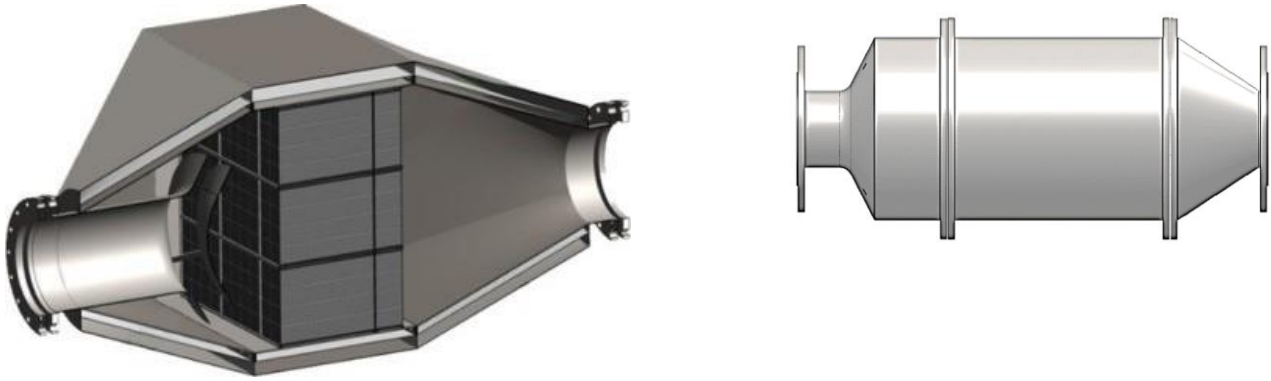

Figure 1: Square Filter (to the left) and the ExiLencer™ Round (to the right, where the middle section contains the coated R-SiC ceramics)
1. The inlet section (“1” in figure 1)
2. The DPF section (“2” in figure 1)
The NO₂/NO_x reduction section (“3” in figure 1) is optional.
Depending on the engine size the Exilencer™ system is either be square, or round, as shows at Figure 1 (below):